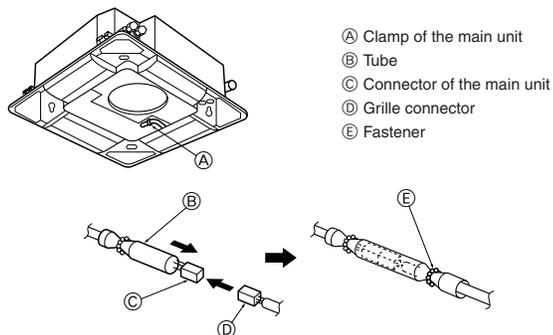

Fig. 8-8
8.4.4. Wire connection (Fig. 8-8)